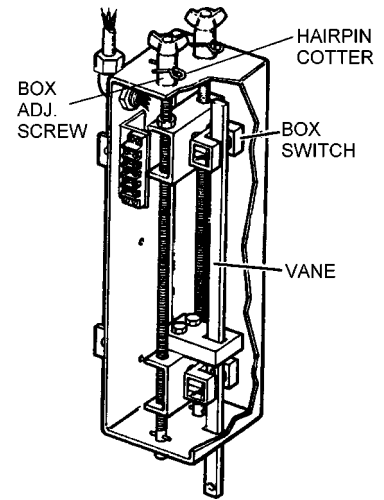

Figure 54B
4. Remove cover from Opto Box (See Figure 54B).